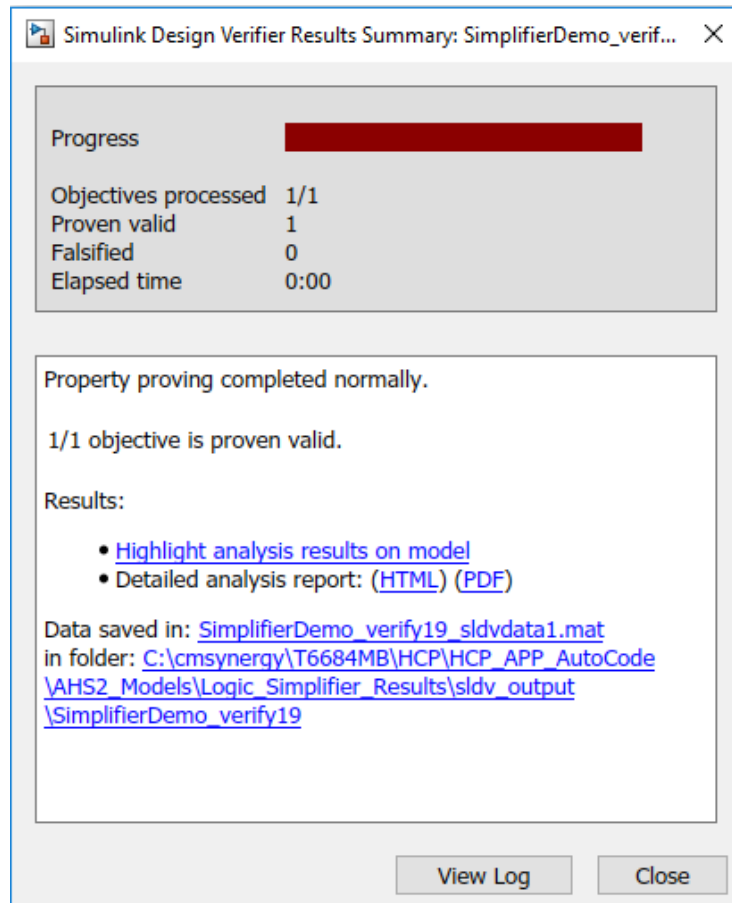

Figure 6: Simulink Design Verifier results summary. All objectives should be processed and proven valid. None should be falsified.
5. The “verification model” will feed the same inputs to the harnessed models and compare values of the outputs via `==` operator and send the results to Design Verifier Proof Objectives. The user should select **Analysis > Design Verifier > Prove Properties > Model** from the menubar. If in the results summary shows that all objectives were processed and proven valid and that 0 were falsified, then the simplification was valid (shown in Figure 6). Otherwise the simplification produced an incorrect result or the verification model was not generated properly (or both).
A “Simulink Design Verifier Results Summary” window will open and display the progress of this operation, as shown in Figure 6. Once the proving operation is completed, the summary window will update to show how many of the properties it was able to prove to be valid or false. The number of properties corresponds to the number of outputs that should be equivalent. Detailed result reports are available in the links.